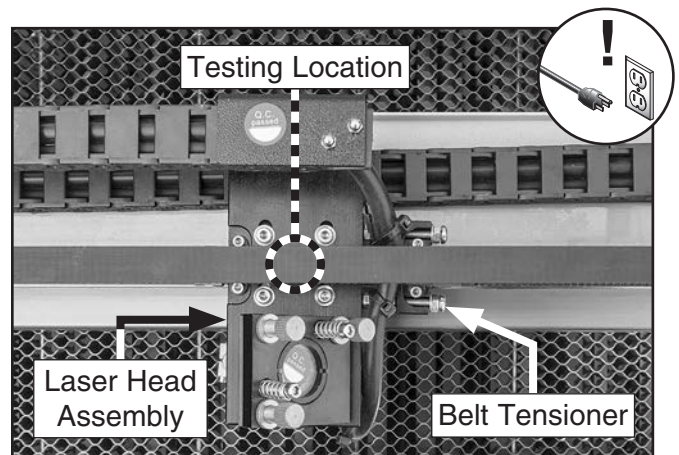

Figure 74. X-axis belt deflection testing location.
3. Test for approximately 10mm of deflection on top side of belt at its center (see **Figure 74**).